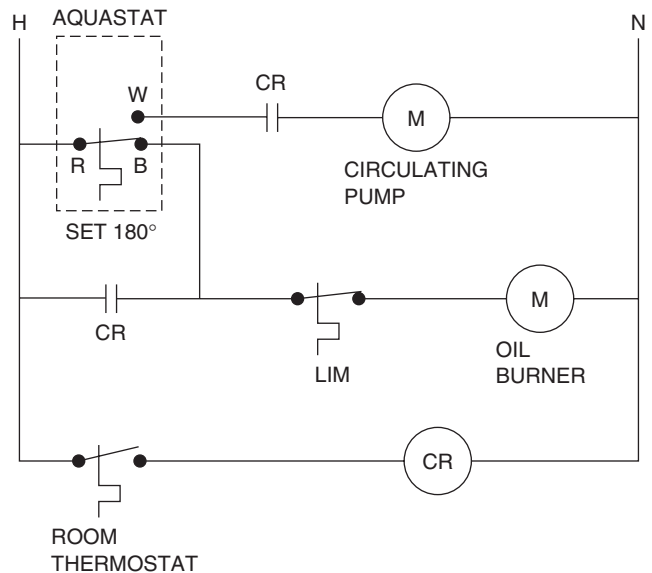

FIGURE 23-7 Boiler with tankless heater.
Some boilers use an auxiliary heat exchanger located inside the boiler to supply **domestic hot water** (water for sinks, baths, and showers). Figure 23-7 shows a wiring diagram for this system. It uses a three-wire aquastat to give the domestic water zone priority over heating. For example, suppose that the demand is so great that the boiler cannot maintain 180°F. The aquastat will make R–B and break R–W, turning off the circulating pump, but letting the oil burner continue to run. Only after the aquastat reaches 180°F again will the heating system be allowed to draw heat from the boiler by turning on the circulating pump.
7. According to Figure 23-7, if the water temperature is below 180 degrees, will the circulating pump operate?
8. According to Figure 23-7, if the room thermostat is closed and the water temperature is below 180 degrees, will the circulating pump operate?